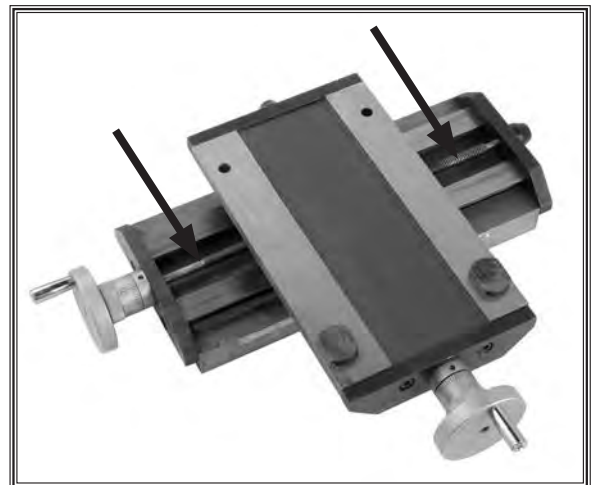

Figure 28. Longitudinal leadscrew.
- Longitudinal leadscrew (**Figure 28**)